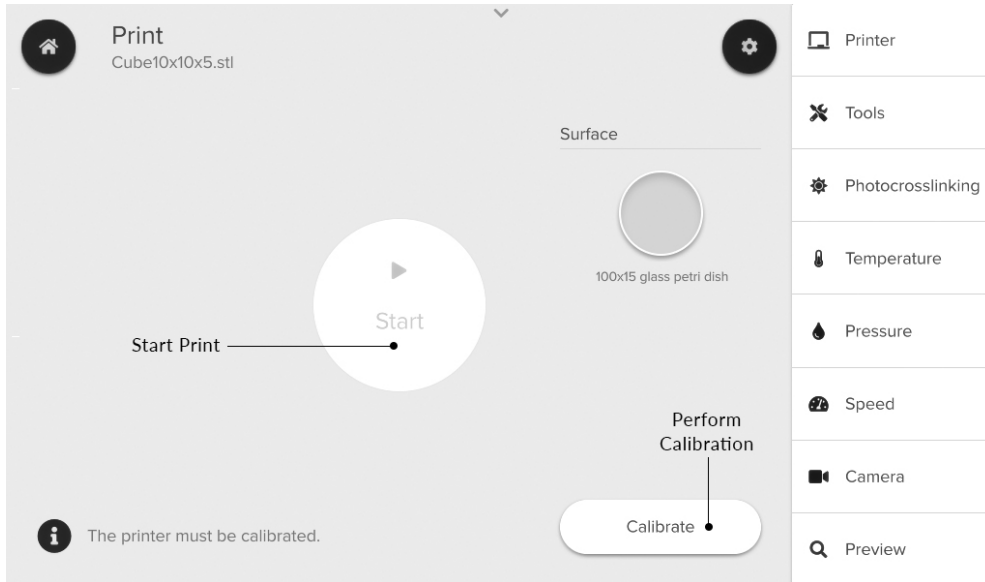

Figure 15: Bioprint menu. The system can be calibrated and you can start bioprinting.
12. Select Calibrate to calibrate the system (Figure 15).
13. Start the bioprinting process (Figure 15).